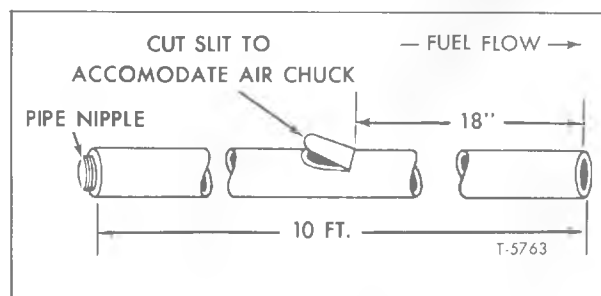

Figure 1—Tank Siphon Construction
1. Obtain an 8 to 10-foot length of 3/8", or slightly less, I.D. hose and cut a flap type slit 18" from one end. Refer to figure 1.